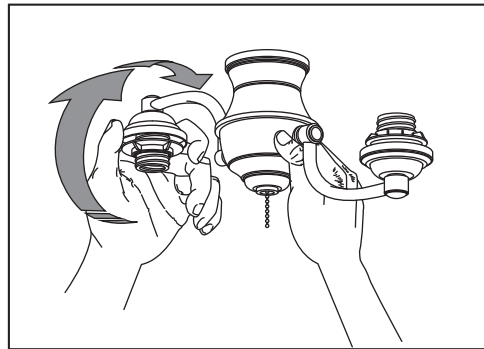

Figure 26
**Hold the light cup and turn slightly to up or down 180° to preferred position. (Fig. 26)**